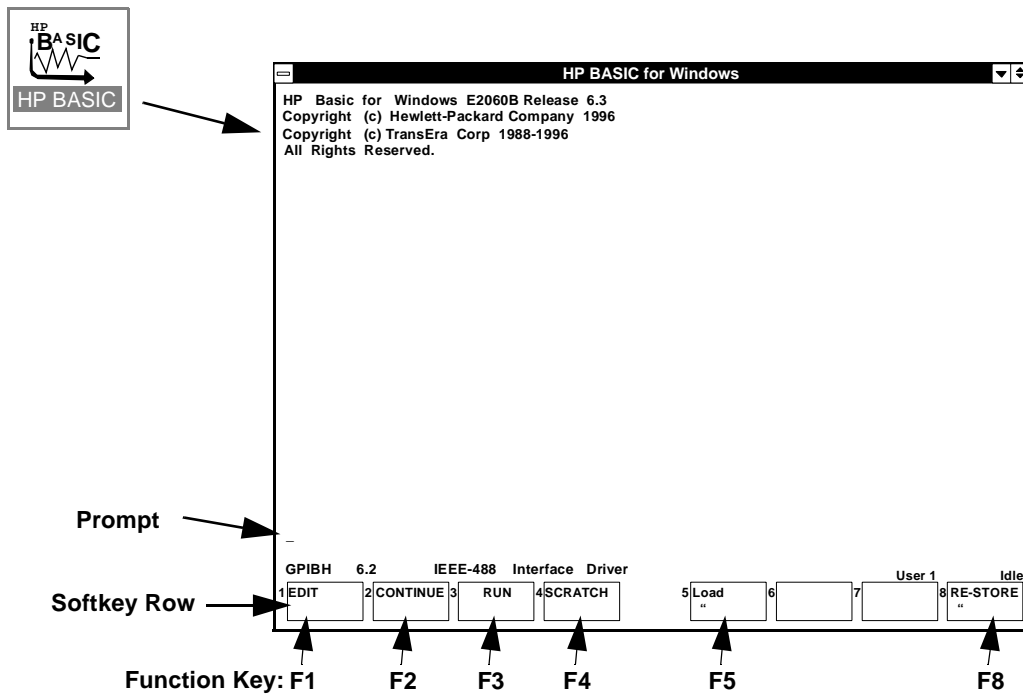

Figure 6 The "HP BASIC for Windows" Window
1. From Windows, double-click on the **HP BASIC** icon. The HP BASIC for Windows window appears. Refer to figure 6 for reference.